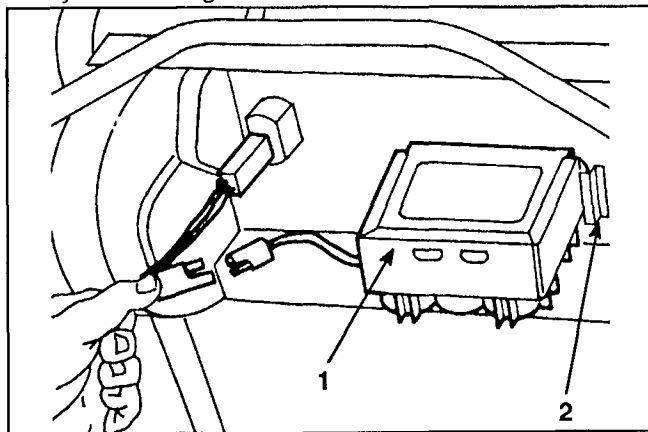

Figure 2
4. **CHARGE BATTERY** (key start model) – Refer to Charging Battery, page 14. Slide battery, decal side up, between mounting tabs on back of control panel and connect wires (Fig. 2). Insert key into switch when ready to start engine.